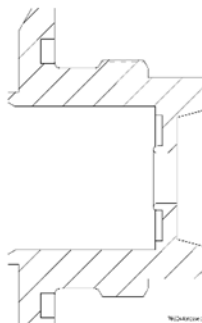

Figure 8-2 Bushing with valve seat (Item 13)
2. Install new lightly greased O-ring (15) onto threaded bushing (14). See Figure 8-2.